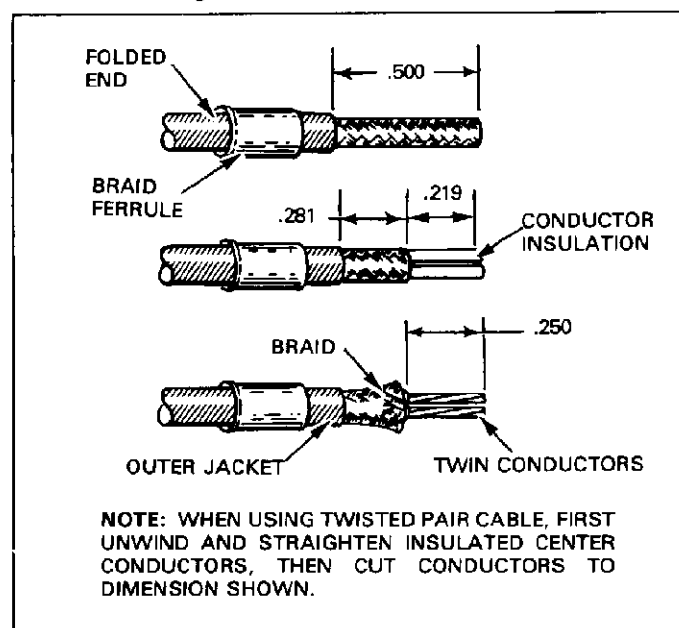

Fig. 2
Before stripping cable, slip ferrule on cable as shown in Figure 2. Then proceed as follows:
braid as shown in Figure 2.
4. Strip cable, exposing .250 in. of both conductors as shown in Figure 2.